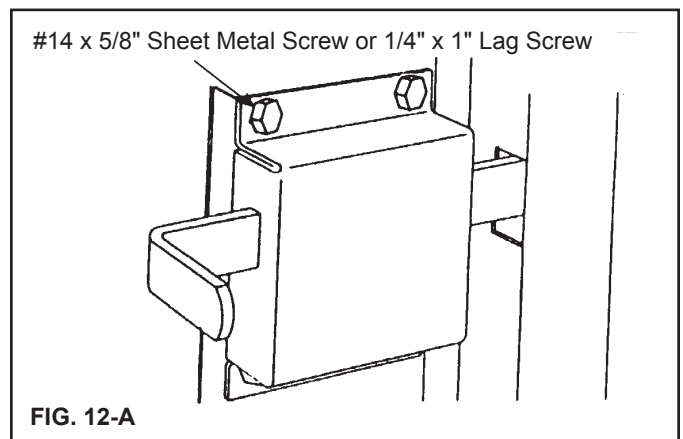

FIG. 12-A
The inside slide bolt is installed on the end stile of the second section using (4) #14 x 5/8" hex head sheet metal screws (steel doors) or (4) 1/4" x 1" lag screws (wood doors). (FIG. 12-A)